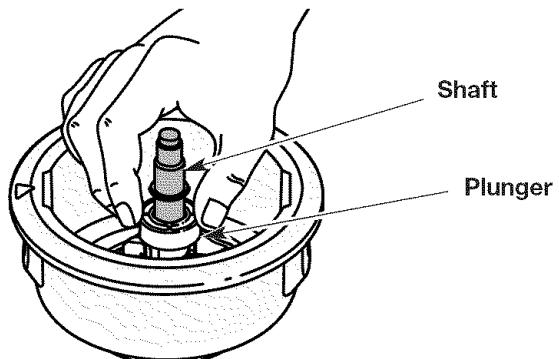

Fig. 23
4. Clean the shaft and the inner surface of the reel housing. To clean the shaft underneath the plunger, press down on the plunger (Fig. 23). Remove any dirt and/or debris from the shaft.